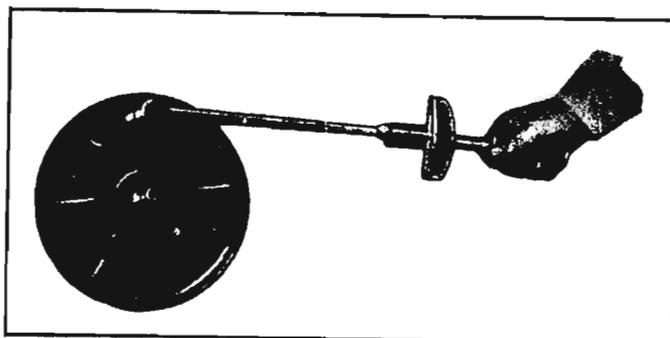
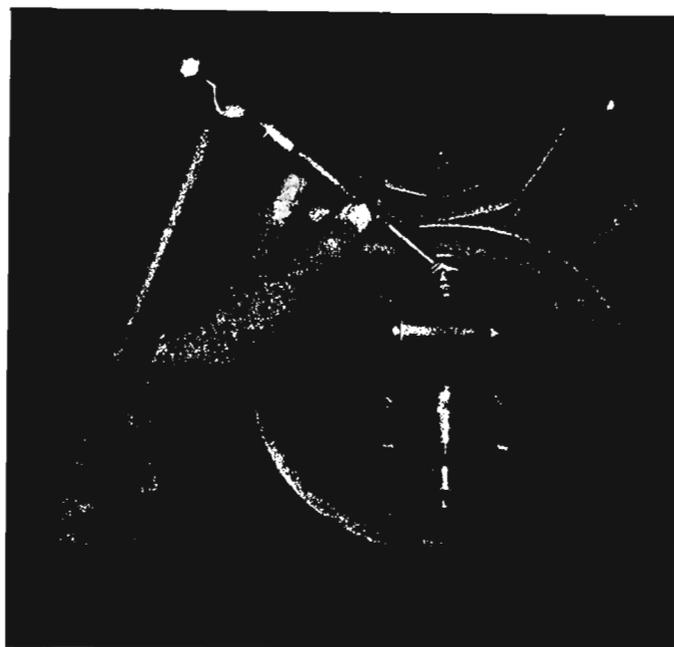

Fig. 5-25—Preparing to Torque Anchor Pin
Fig. 5-26—Anchor Pin Lock
1. **FRONT WHEELS**—Place lock washer on anchor pin and pass pin through hole provided in wheel cylinder casting. Position cylinder on flange plate and turn anchor pin into the tapped hole in the spindle support. Torque pin to 60-85 foot pounds (fig. 5-25) and lock by peening over washer tabs (fig. 5-26).